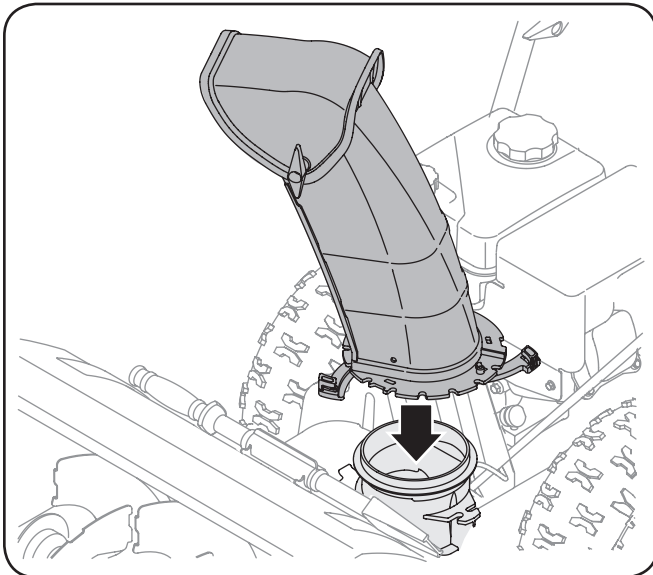

**Figure 3-18**
**NOTE:** Make certain the cables are seated properly in the roller guides. See Figure 3-18.